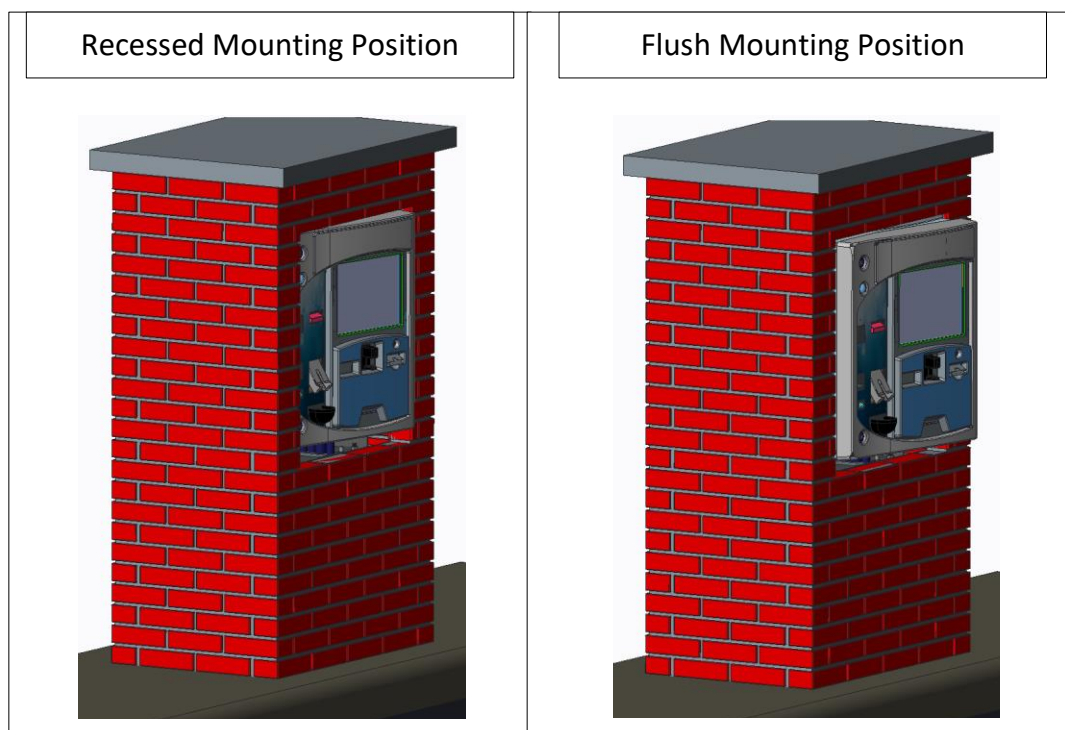
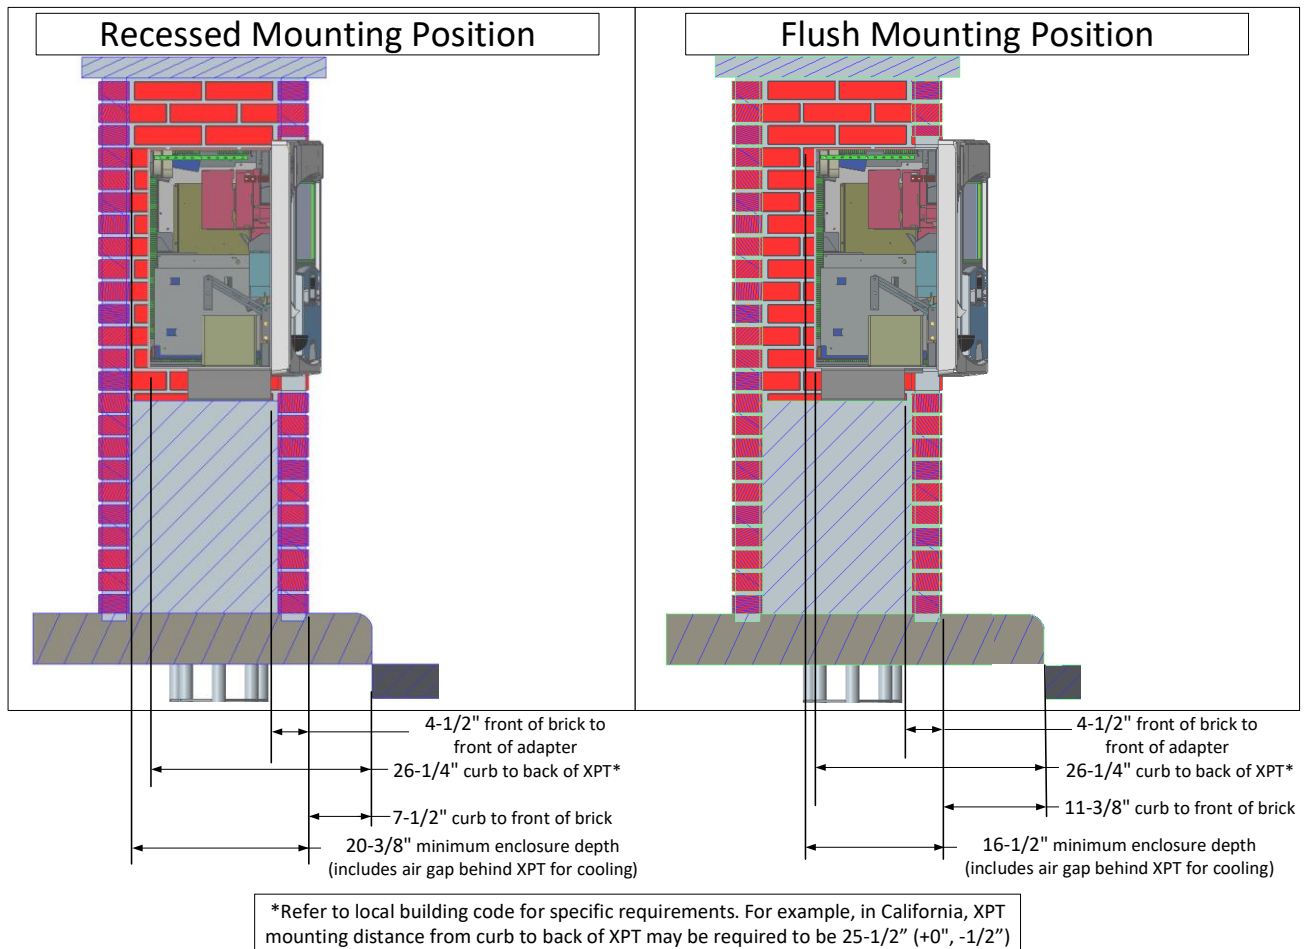
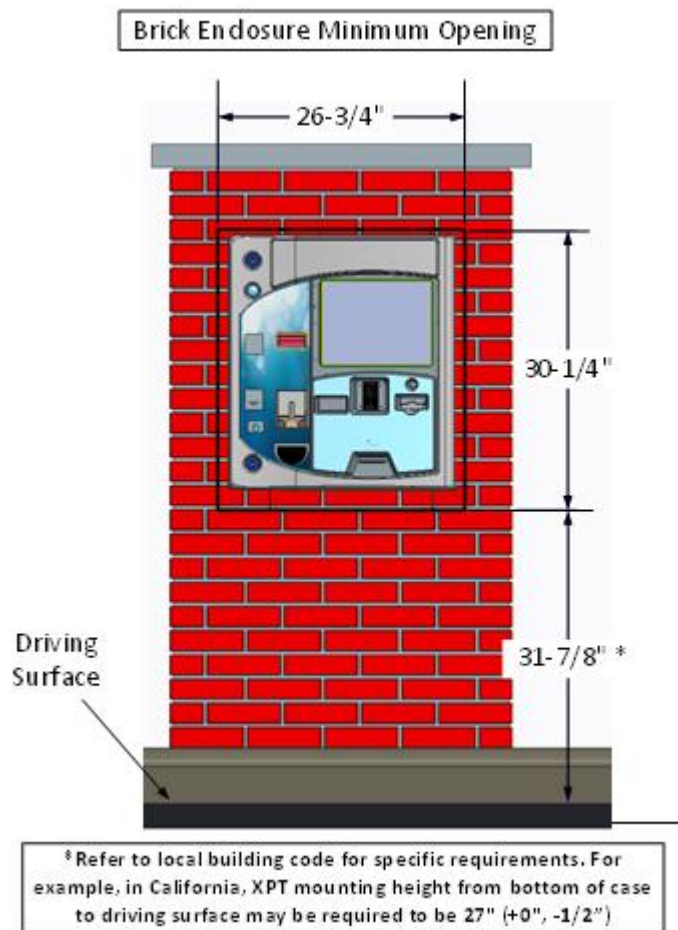
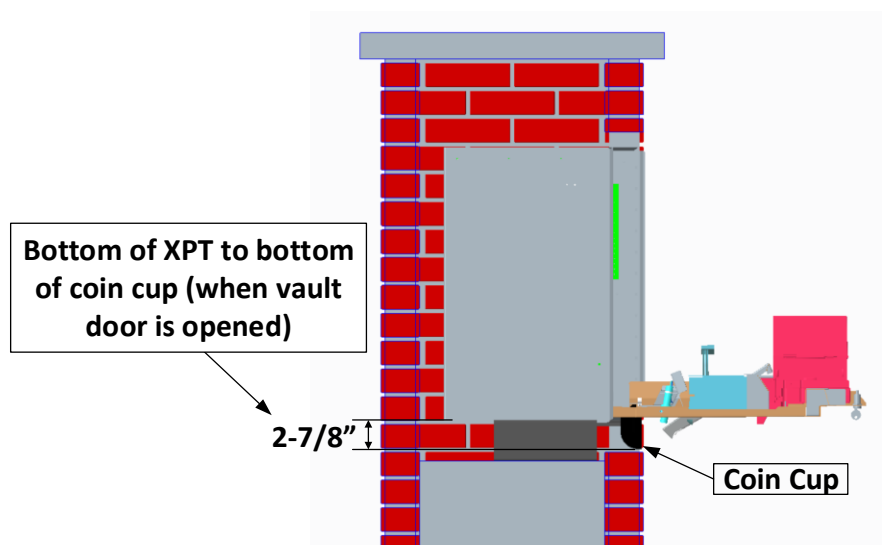

Figure 12. Brick-In Mounting Positions
Figure 13. Mounting Position vs. Enclosure Placement and Size
Figure 15. Brick Enclosure Minimum Opening
Figure 16. Clearance Required for Coin Cup
In addition to two mounting options, there are two available mounting positions – recessed and flush mount. See Figure 12 for an example of each. **It is important to determine which mounting position will be used, as this will determine how far back the brick enclosure should be built from the edge of the curb (as shown in Figure 13).**
- Depending on whether the XPT will be mounted in recessed or flush mount position, the brick enclosures should be sized and positioned relative to the curb as shown in Figure 13. The recessed mounting position will require the brick enclosure be made deeper than if using the flush mounting position.
- After the brick enclosure depth has been calculated according to Figure 13, the enclosure should be sized to allow a minimum 26-3/4" wide by 30-1/4" high opening for the XPT, as shown in Figure 15. These dimensions allow the correct minimum gap around all sides of the XPT to allow the main door and vault doors to fully open without contacting the brickwork. The proper gap underneath the front of the XPT becomes even more critical if the XPT includes the coin dispensing option, because the coin cup protrudes downward approximately 2-7/8" below the bottom of the XPT case, when the vault door is open (as shown in Figure 16. Clearance Required for Coin Cup).